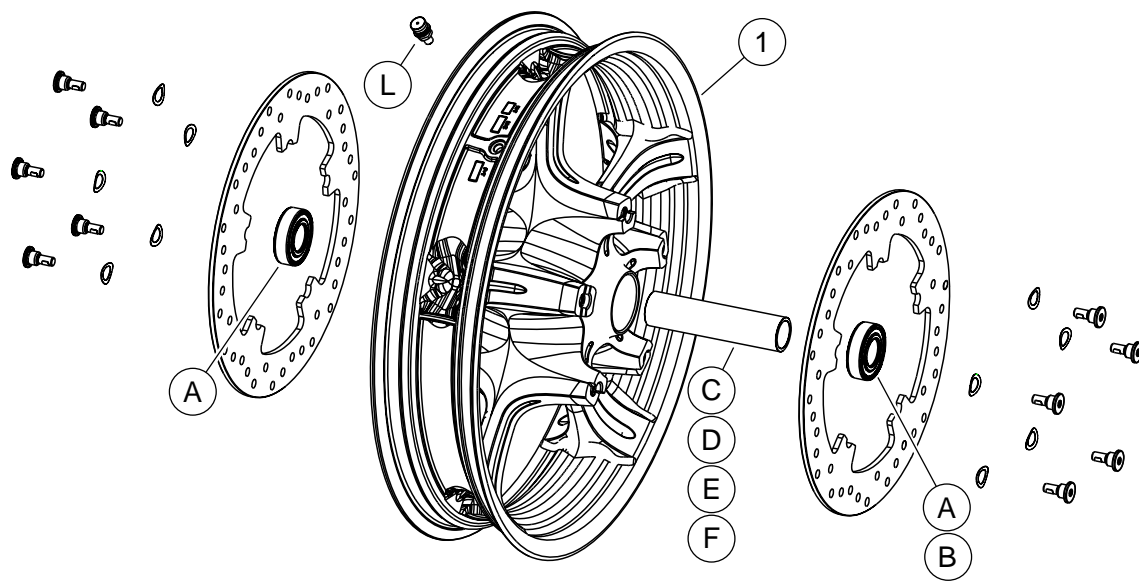

Figure 1. Service Parts: FRONT ANARCHY WHEELS (18-inch wheel shown)
2. See Figure 1. Install valve stem assembly (L) on wheel. Refer to TIRES in service manual.